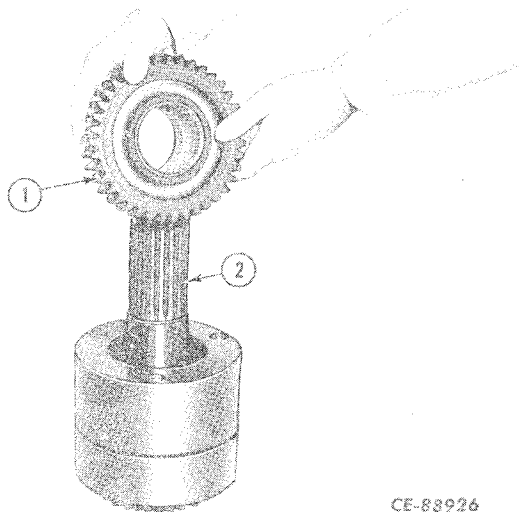

Figure 4-108
Remove the 2nd speed drive gear (1, Fig. 4-108) with roller bearings (P-601) in hub from the shaft (2). P-600 has bushings in hub.